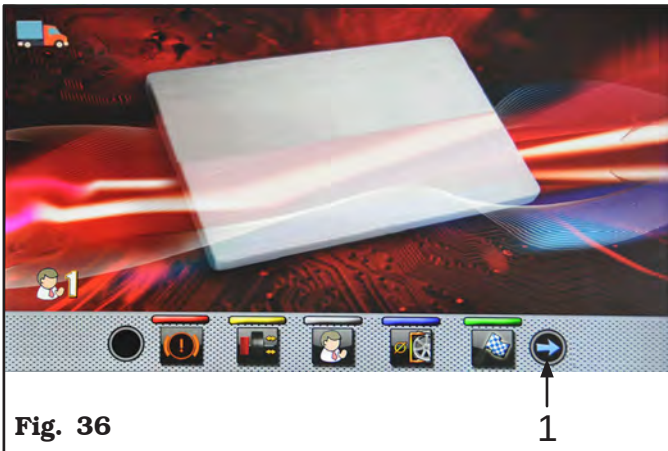
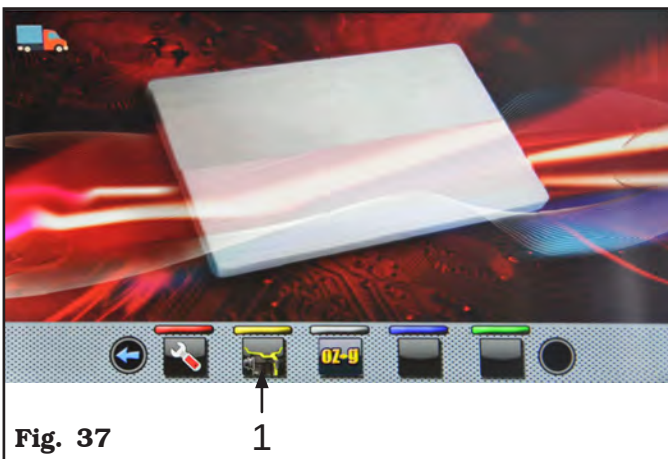

Fig. 36
Fig. 37
(Fig. 36 re. 1) and then the button (see Fig. 37 ref. 1).